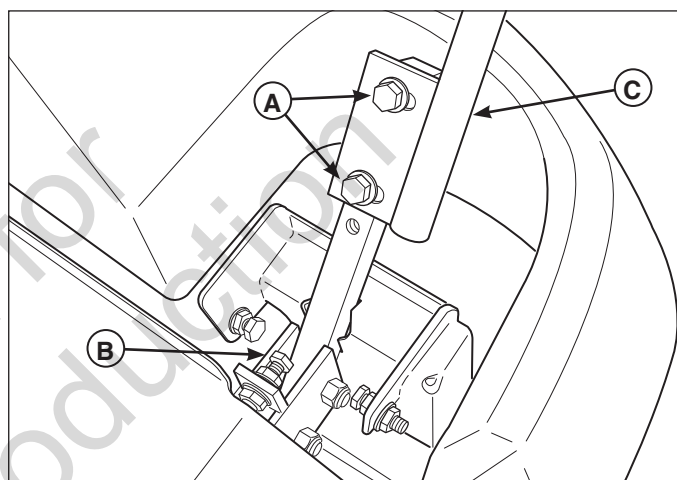

Figure 35. Control Lever Adjustment
Loosen the mount bolts (A, Figure 35) and pivot the levers (C) to align with each other.